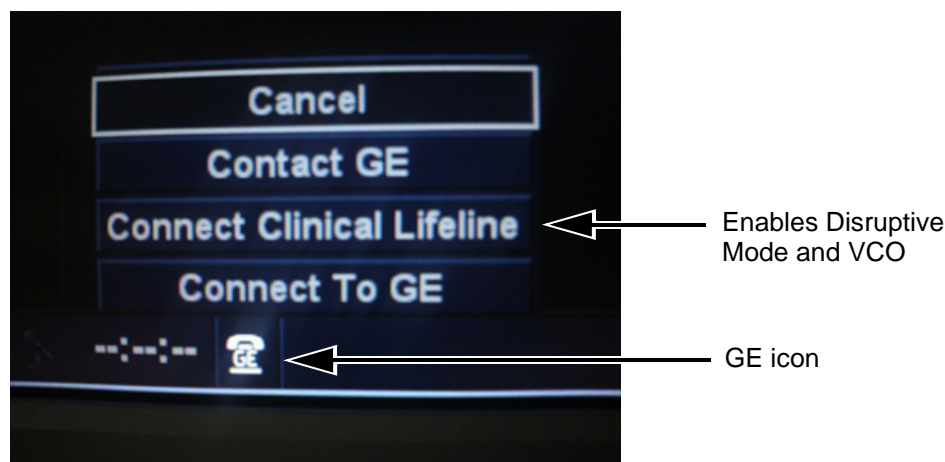

Figure 7-4 Connect Clinical Lifeline
- 3.) Select **Connect Clinical Lifeline** (see: Figure 7-4 below).